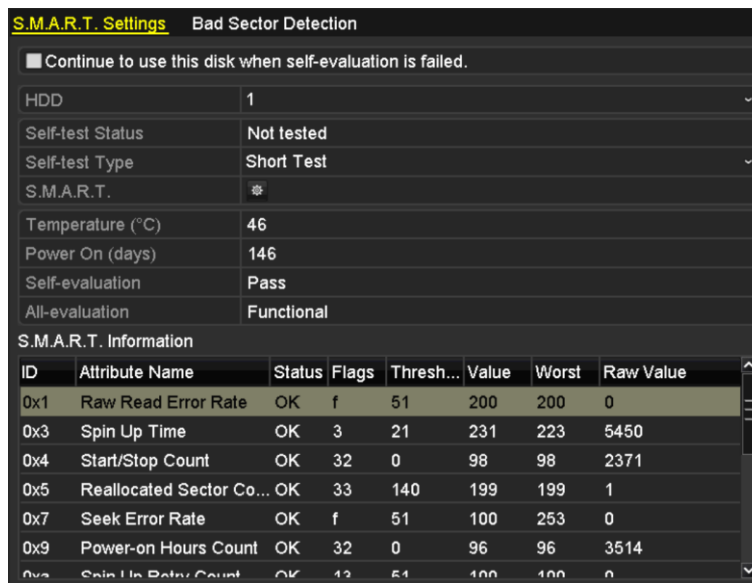

Figure 10. 21 S.M.A.R.T Settings Interface
2. Select the HDD to view its S.M.A.R.T information list, as shown in Figure 10. 21.